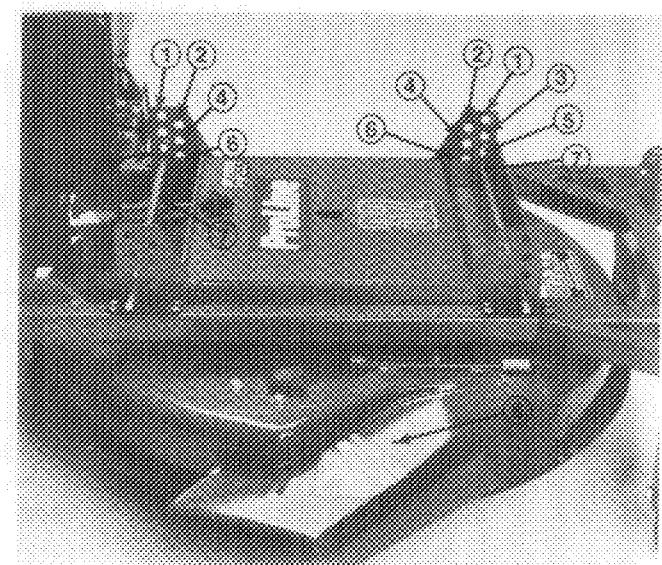

Figure 5
The height-of-cut is adjustable from 1 to 4 inches (25 to 102 mm) in 1/2 inch (13 mm) increments by relocating support rods in different hole locations in brackets at each corner of the cutting unit (Fig. 5).
1. Remove (4) hair pin coppers securing support rods in brackets (Fig. 5).
The grass deflector (Fig. 5) is a safety device that diverts grass and other foreign objects being discharged downwardly. WE STRONGLY RECOMMEND THAT THE DEFLECTOR BE IN THE LOWEST POSITION WHENEVER THE MACHINE IS USED NEAR BUILDINGS OR WHEN THERE ARE PEOPLE OR ANIMALS IN THE AREA. THE BLADE CAN THROW DEBRIS A CONSIDERABLE DISTANCE WITH SUFFICIENT FORCE TO CAUSE PERSONAL INJURY OR DAMAGE TO PROPERTY. THE ONLY TIME THE DEFLECTOR SHOULD BE IN THE UPPER POSITION IS WHEN THERE IS NO POSSIBILITY OF INJURY OR DAMAGE. NEVER OPERATE CUTTING UNIT WITH DEFLECTOR REMOVED FROM CUTTING UNIT OR MOVED TO MORE OPEN POSITION. NEVER CHANGE DEFLECTOR HEIGHT WHEN THE BLADE IS TURNING. If the grass deflector is damaged, repair or replace the affected part(s).